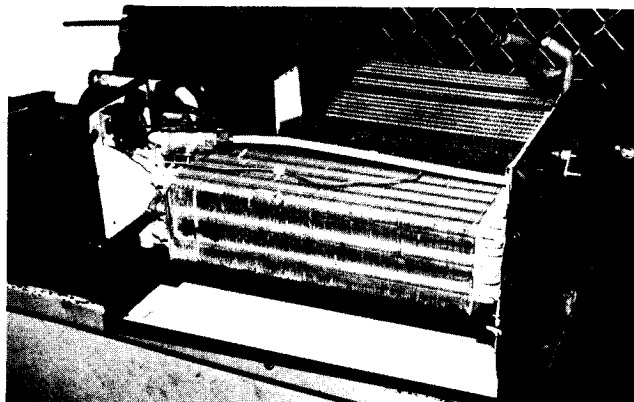

FIGURE 2
3. Remove plastic bottom and steel holding strap (Figure 2).